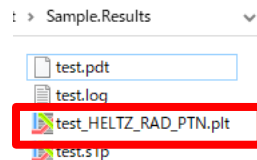

Fig. 3 Check the file
4. A file of the directivity graph is saved in the results folder as shown in Fig. 3.